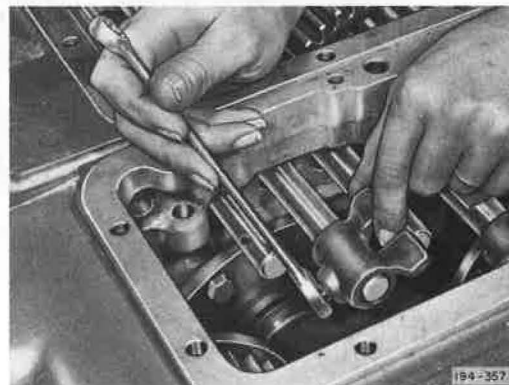

Figure 24. Removing Setscrew and Shifter
22. (Forward controls only) Remove shifter setscrews and shifters from front compound. See Figure 24.